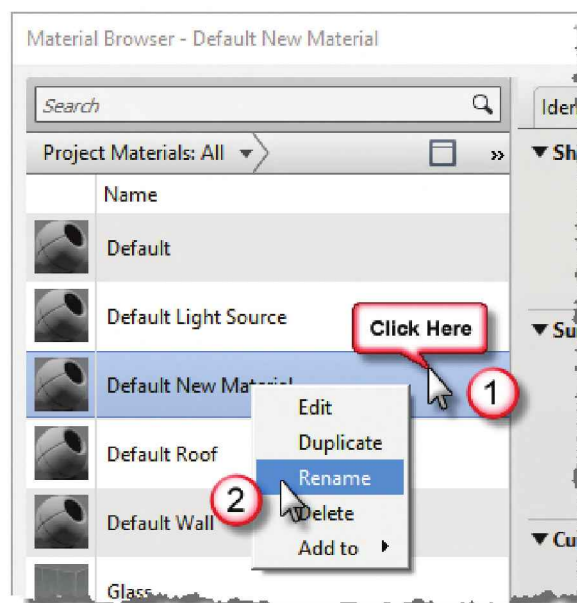

FIGURE 18-4.8 Naming new material
18. Right-click the new *Material* and **Rename** it to **Box Material**; see Figure 18-4.8.